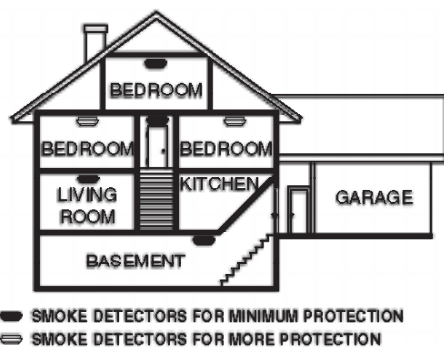

Figure 3: Recommended Smoke Detector Protection for a Multilevel Residence
- Put a smoke detector on every level of a multi-level residence (Fig. 3).